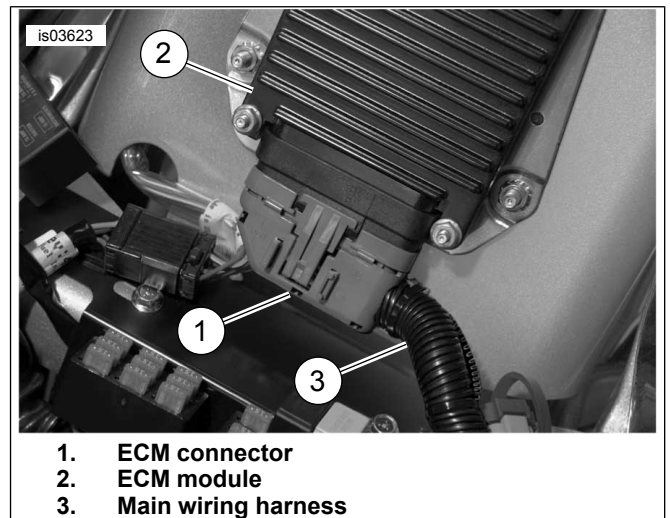

Figure 13. Electronic Control Module (ECM) and Connections
2. See Figure 13. Disconnect electronic control module (ECM) connector (1) from ECM module (2).